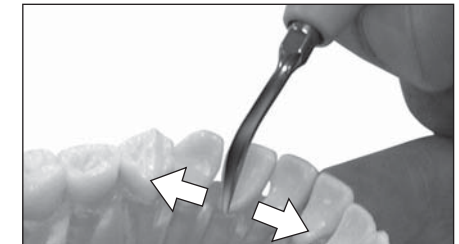

Fig. 22
- Removing tartar on the neck of tooth ... Apply the top of the Tip on the tooth plane and move it sideways finely along the neck of tooth. (Fig. 22)